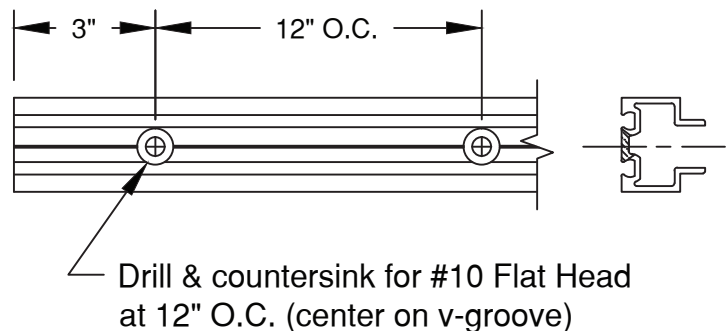

FIGURE 7
- 1.9 For SSG mullions requiring 1/4" glazing adaptors, drill and countersink holes in adaptors at 12" O.C. for a #10 flat head screw. **SEE FIGURE 7.**